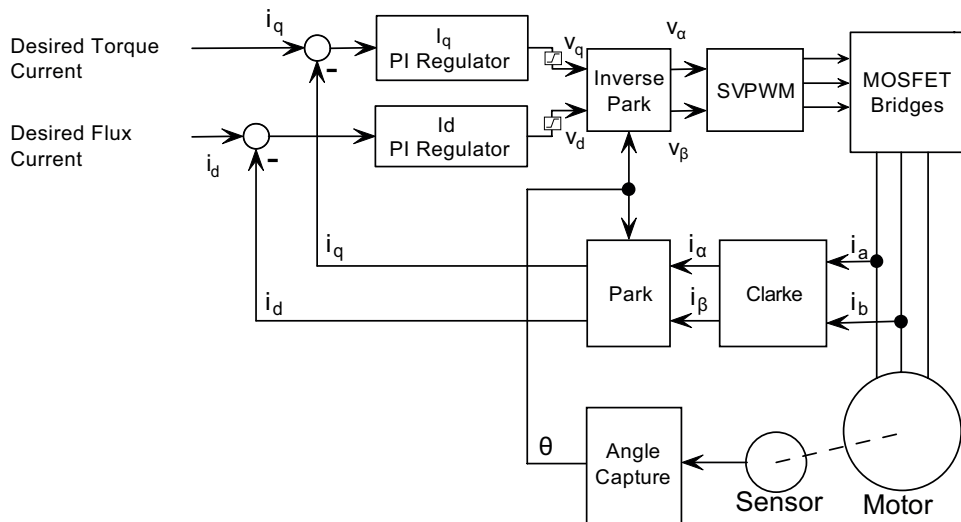

FIGURE 8-25. FOC operation
Field Oriented Control is available on all models of Roboteq motor controllers. It uses a classical implementation as described in the figure 8-25. The current in the motor phase is captured, along with the rotor's angle. From this are computed the useful I_q and wasteful I_d . Two Proportional-Integral (PI) regulators then work in parallel to control the output voltage amplitude and phase so that the desired Torque (I_q) and Flux (I_d) currents are met. The desired Flux current is typically set to 0 for SPM brushless dc motors, and so the regulator will work to totally eliminate the Flux current. The output of the PI d-q axis current controllers yield the d-q axis reference voltage commands (V_d , V_q) applied to the motor through the Space Vector Pulse Width Modulation (SVPWM) technique.